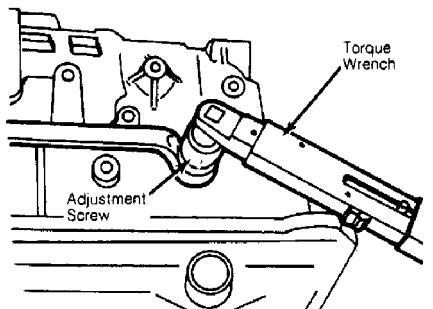

Fig. 1: Adjusting Second Brake Band
1) Adjust second brake band with transmission in a horizontal position only. Loosen adjustment screw lock nut. Tighten brake band adjustment screw to 90 INCH lbs. (10 N.m). See Fig. 1.